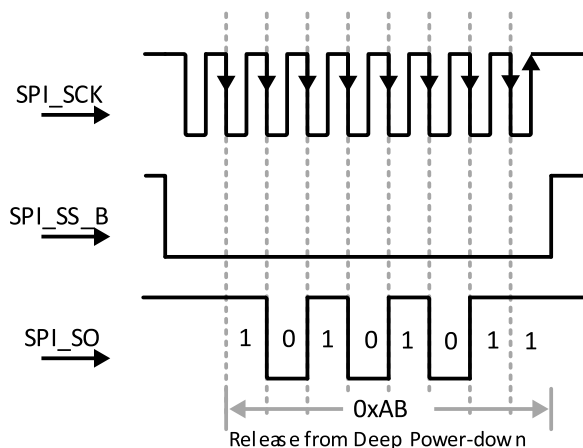
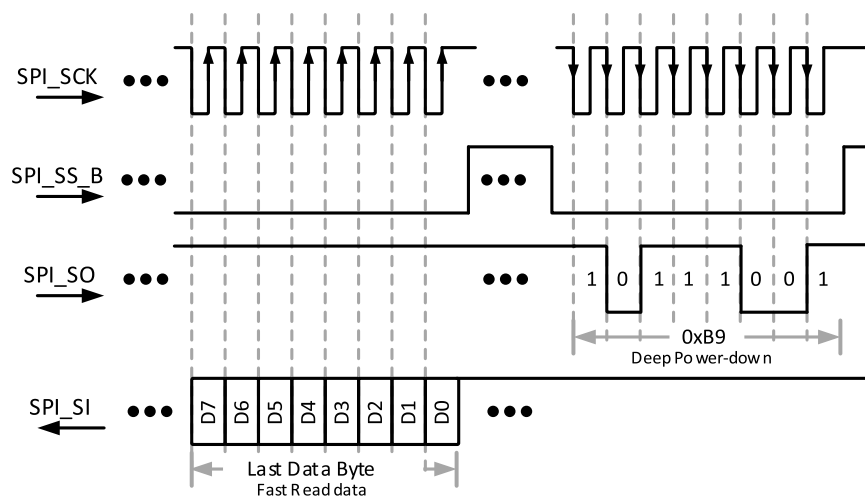

Figure 9.3. SPI Release from Deep Power-down Command
Figure 9.5. Final Configuration Data, SPI Deep Power-down Command
- For lowest possible power consumption after configuration, the PROM should also support the 0xB9 Deep Power Down command and the 0xAB Release from Deep Power-down Command (see Figure 9.3 and Figure 9.5). The low-power mode is optional. The PROM must be powered and ready to be accessed following iCE40 POR.
The iCE40 SPI interface starts by driving SPI_SS_B Low, and then sends a Release from Power-down command to the SPI PROM, hexadecimal command code 0xAB. Figure 9.3 provides an example waveform. This initial command wakes up the SPI PROM if it is already in Deep Power-down mode. If the PROM is not in Deep Power-down mode, the extra command has no adverse effect other than that it requires a few additional microseconds during the configuration process. The iCE40 device transmits data on the SPI_SO output, on the falling edge of the SPI_SCK output. The SPI PROM does not provide any data to the iCE40 device's SPI_SI input. After sending the last command bit, the iCE40 device de-asserts SPI_SS_B High, completing the command. The iCE40 device then waits a minimum of 10 μ s before sending the next SPI PROM command.
After transferring the required number of configuration data bits, the iCE40 device ends the Fast Read command by de-asserting its SPI_SS_B PROM select output, as shown in Figure 9.5. To conserve power, the iCE40 device then optionally issues a final Deep Power-down command, hexadecimal command code 0xB9. After de-asserting the SPI_SS_B output, the SPI PROM enters its Deep Power-down mode. The final power-down step is optional; the application may wish to use the SPI PROM and can skip this step, controlled by a configuration option.